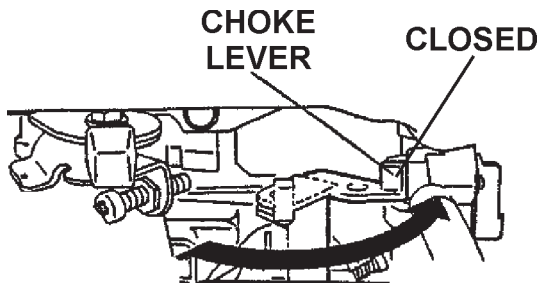

Figure 13. Choke Lever (Closed)
- If the engine has started, slowly return the choke lever (Figure 13) to the **CLOSED** position. If the engine has not started repeat steps 1 through 6.